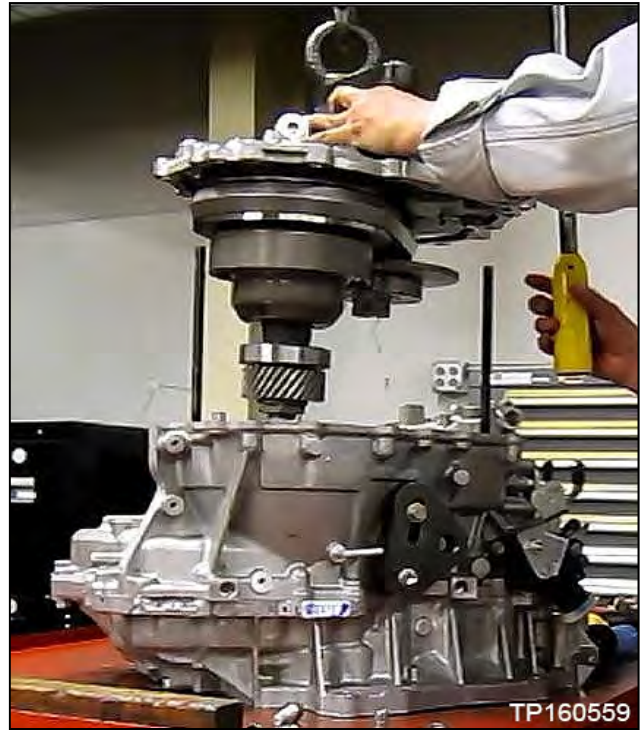

Figure 91
- Rotate between the three (3) locations on the side cover until the CVT case separates from the sub-assembly; this can take more than one rotation to loosen sealant.
66. Raise the Lifting Fixture to remove the “side cover with pulleys and belt sub-assembly” (sub-assembly) from the CVT case (Figure 91).